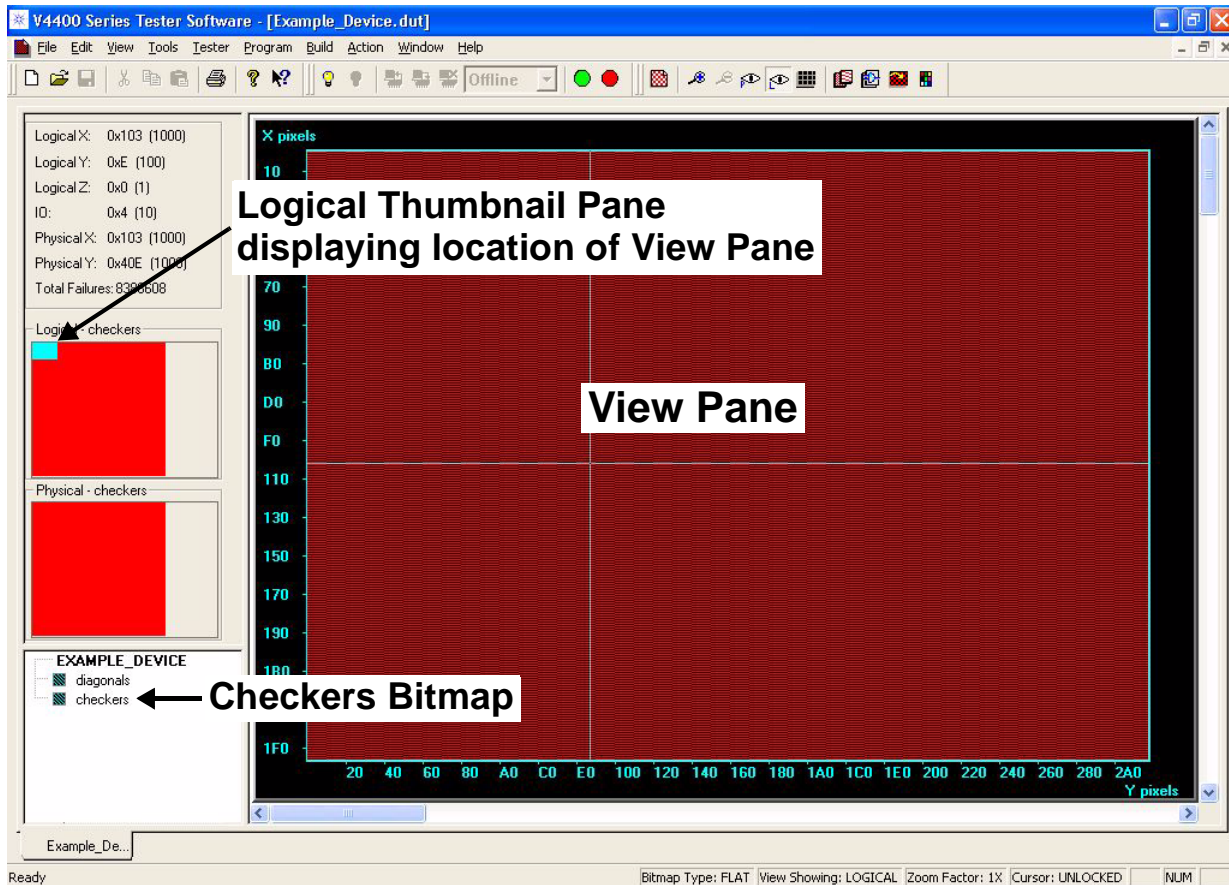

Figure 8-67. Main Window Displaying Second Bitmap File
- 4 Loading the `checkers.HBM` file displays the bitmap as shown in Figure 8-67. This bitmap was created to display checkerboard failures.